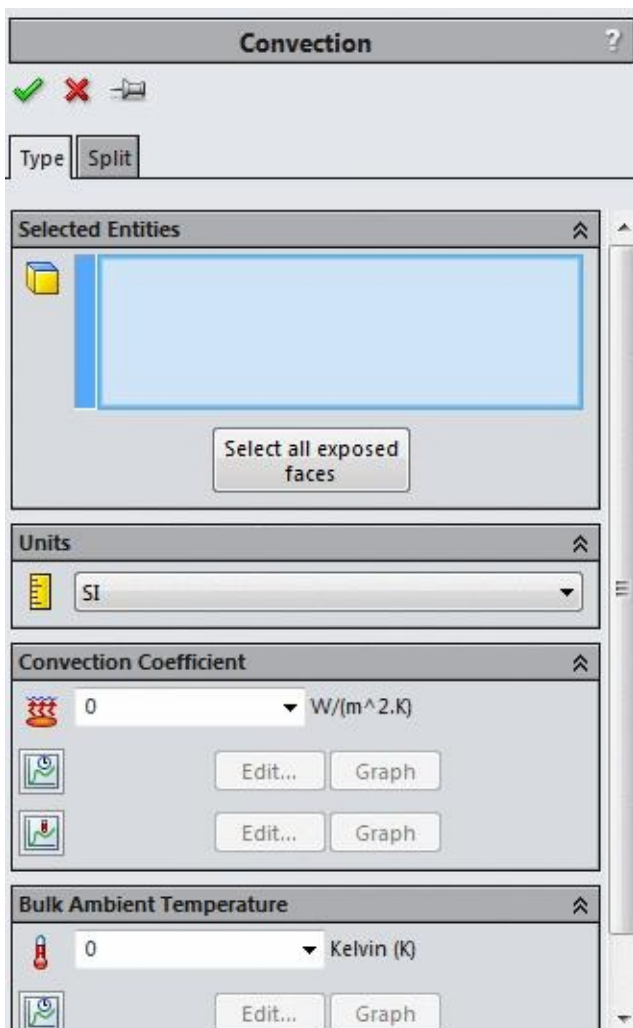

Figure-7. Convection PropertyManager
- Select the **Convection** button from the list of tools. The **Convection PropertyManager** will be displayed as shown in Figure-7.